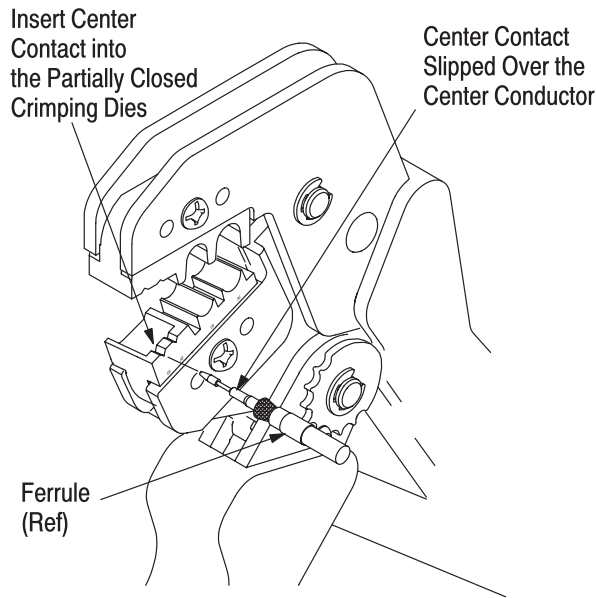

Figure 2
**3. CRIMPING PROCEDURE** (Figure 2)